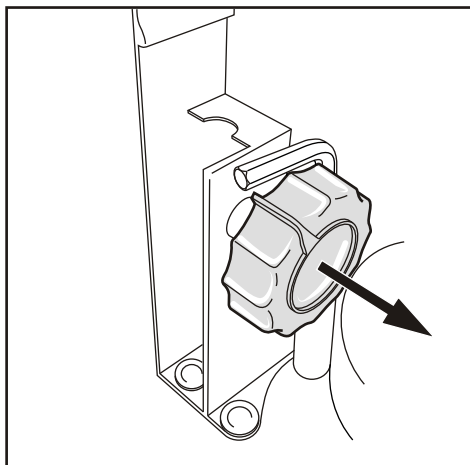

Figure 25 Setup tool in stored position
5. Flip over the controller enclosure. Open the override dust cover as shown in Fig. 31, and remove the origin tool from its storage position (see Fig. 25).